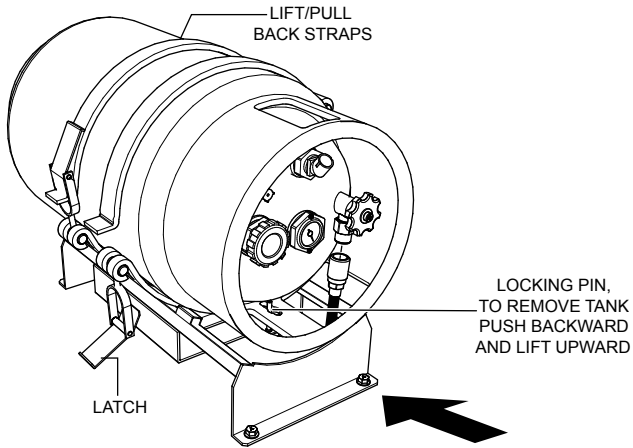

Figure 4. LPG Tank Removal
2. Release LPG tank strap latches (Figure 4). Push LPG tank backward and lift upward to remove.